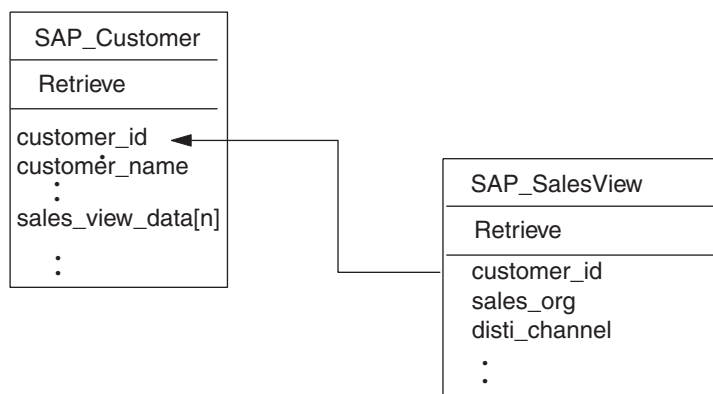

Figure 33. Example customer and sales view relationship
- In a multiple-cardinality relationship, the foreign key is determined by the primary key in the child referencing the **primary key** attribute in the parent. Each child has at least one simple attribute that contains the parent's primary key as a foreign key. The child has as many foreign-key attributes as the parent has primary-key attributes. Figure 33 on page 217 provides an example.
Figure 33 provides an example of a different WebSphere business object developed to process customer objects in SAP. This example SAP_Customer has a multiple-cardinality relationship to the example sales view object that it contains (the sales_view_data[n] attribute has cardinality n). The primary key attribute (customer_id) in the child business object references the primary key (customer_id) in the parent business object.